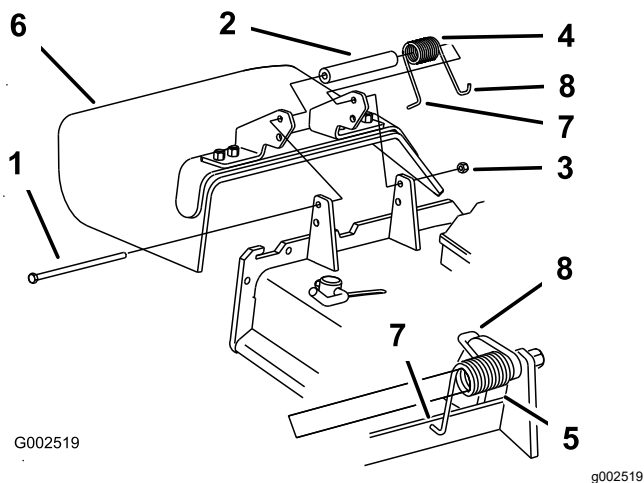

Figure 56
1. Remove the locknut, bolt, spring and spacer holding the deflector to the pivot brackets (Figure 56).
Note: Make sure that the **L** end of the spring is installed behind the deck edge before installing the bolt as shown in Figure 56
5. Place the **J**-hook end of the spring around the grass deflector (Figure 56).